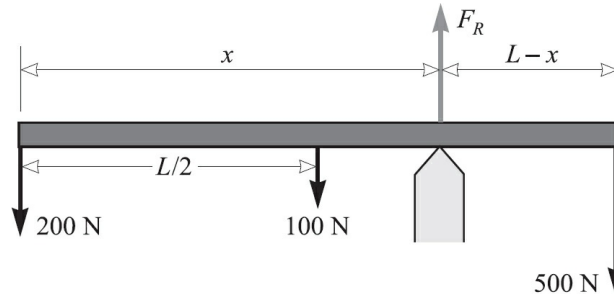

Fig. 5-4
5.3 [II] A uniform, horizontal, 100-N pipe is used as a lever, as shown in Fig. 5-4. Where must the fulcrum (the support point) be placed if a 500-N weight at one end is to balance a 200-N weight at the other end? What is the upward reaction force exerted by the support on the pipe?
The forces in question are shown in Fig. 5-4, where F_R is the reaction force of the support on the pipe. The weight of the pipe acts downward at its center. We assume that the support point is at a distance x from one end. Take the axis of rotation to be at the support point. Then the torque equation, $\curvearrowright \sum \tau = 0$, about that point becomes